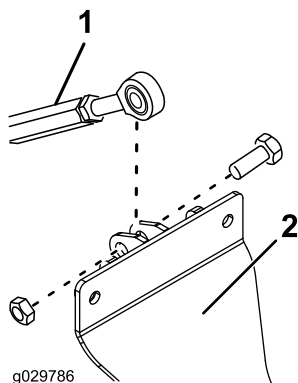

Figure 5
6. Secure the threaded link rod end to the cylinder-support assembly with a bolt (1/2 x 1-1/2 inch) and locknut (1/2 inch) as shown in Figure 5.